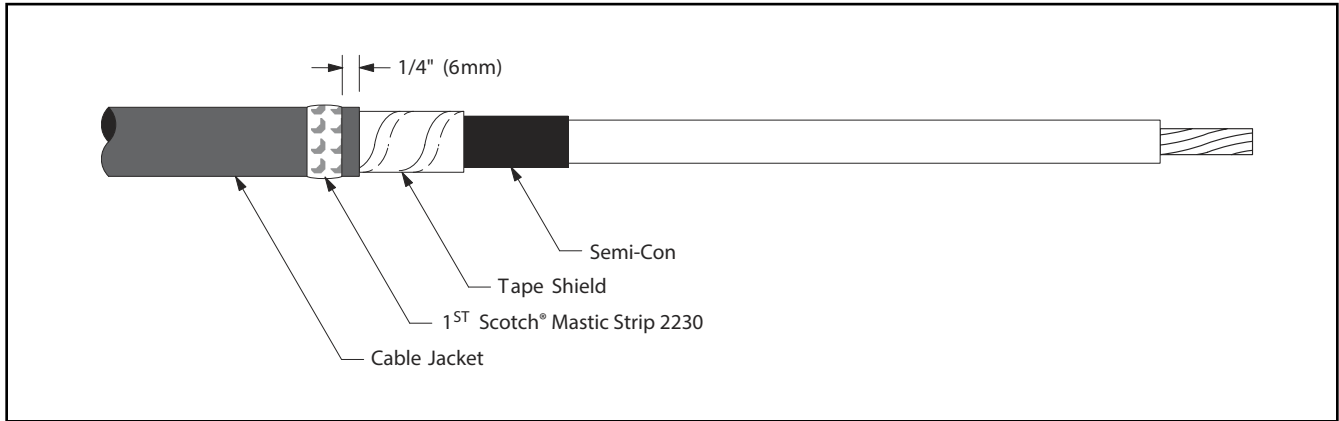

Figure 2
- 2.1 Select a Scotch® Mastic Strip 2230 from kit and remove white release liners. Using light tension, apply a **SINGLE WRAP** of mastic around the cable jacket 1/4" (6 mm) from cut edge (*Figure 2*). Cut off excess.